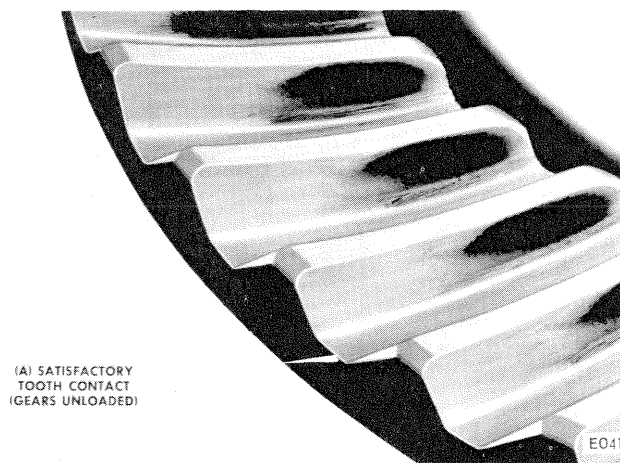

Figure 39
3. Apply a film of white lead to several gear teeth; turn the gears to obtain a pattern and compare the pattern with figs. 39 through 44. Check pattern on the drive side of the gears.
a. Figs. 39 and 40 show correct tooth contact.